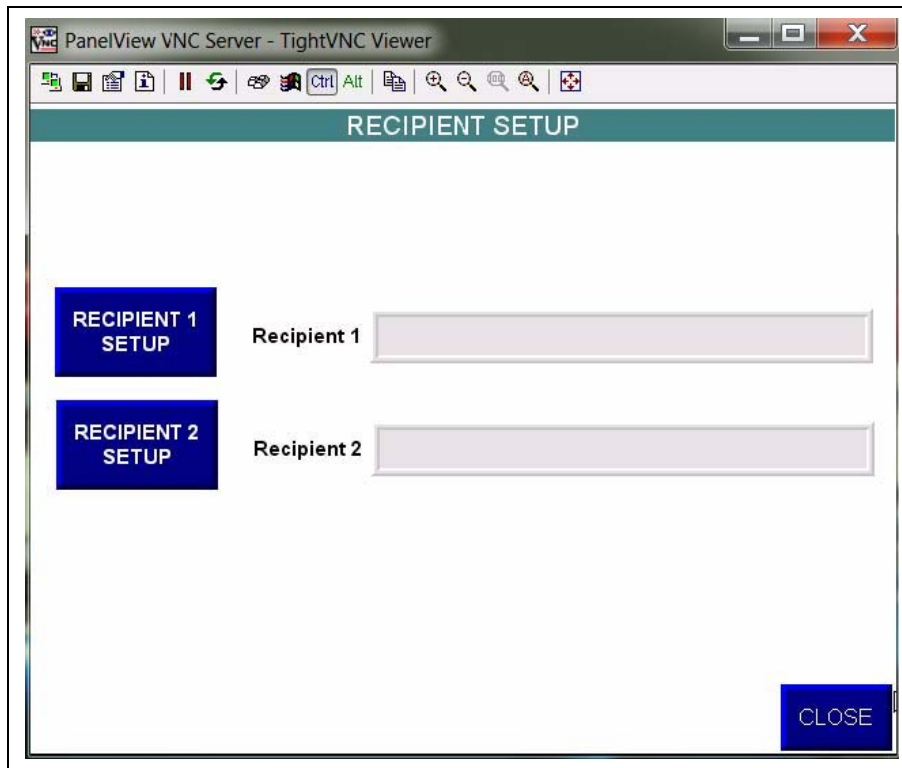

Figure 6D
3. Press Recipient Setup to begin setting up the message recipients. You will be taken to the following screen. (See Figure 6D.)